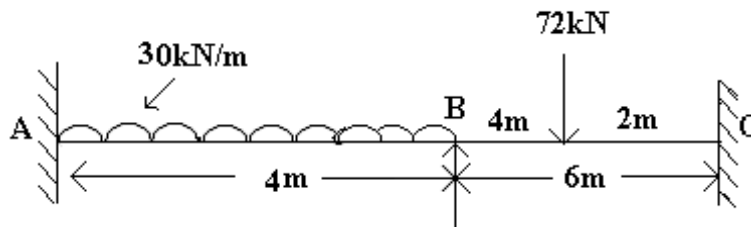

Figure 1:
5. The support B of the two-span continuous beam shown in Figure 1 sinks during loading by 10mm. Using slope-deflection method, analyse the beam and sketch the B.M. and S.F. diagrams. ($E = 200 \text{ GN/m}^2$ and $I = 100 \times 10^{-6} \text{ m}^4$) [16]